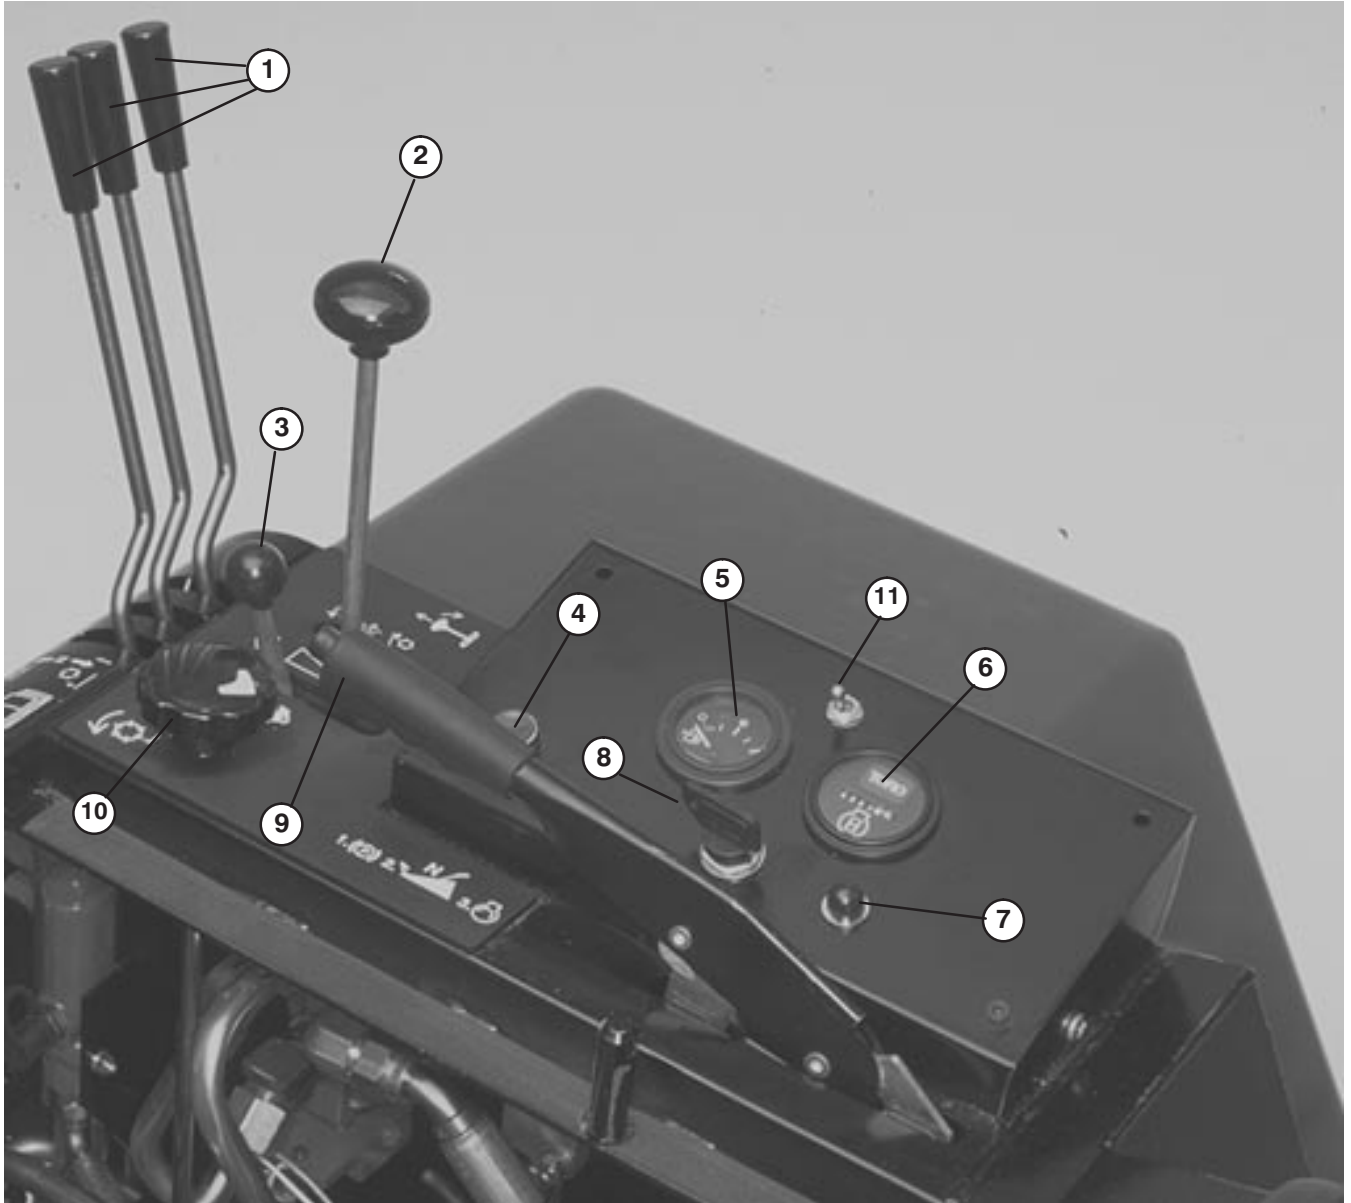

Figure 12
Cutting Unit Lift Controls (Fig. 12) – The two outside levers raise and lower the two outside cutting units. The center lever raises and lowers the two front and the center cutting units. Engine must be running to lower cutting units. When cutting units are lifted, reels automatically stop. Do not allow levers to snap–back to neutral, or cutting units may not float freely.
Engine Override Button (Fig. 12) – When button is depressed, engine can be operated after it has over heated and automatically been stopped by the electrical safety system. Use only for short intervals.
Fuel Level Gauge (Fig. 12) – Indicates amount of fuel in tank.
Hour Meter (Fig. 12) – Indicates total hours that machine has been operated.
Engine Preheat Indicator Light (Fig. 12) – Light turns on when key is moved to ON position. Glow plugs engage for 10 seconds, then, light goes off when engine is ready to start.
Key Switch (Fig. 12) – Three positions: OFF, ON and START. Rotate key to START and release key when engine begins running. To stop engine, rotate key to OFF.
Parking Brake Lever (Fig. 12) – Pull lever up to lock brake. To release brake, pull up on lever, press button and lower lever. Brake must be engaged to start engine. Always engage parking brake before getting off seat.
Mow–Backlap Lever (Fig. 12) – Move lever forward to engage cutting units. Move lever to the center to stop the cutting units. To backlap cutting units, lift lever over stop and hold in the rear position.
Reel Speed Control (Fig. 12) – Rotate knob clockwise to increase reel speed, counter–clockwise to decrease speed. Use in conjunction with the ground speed limiter to achieve appropriate rate of clip.
Throttle Control (Fig. 12) – Move control forward to increase engine speed, backward to decrease speed.
4 Wheel Drive Switch (Fig. 12) – (4 wheel drive model only) Move switch forward to engage 4 wheel drive. Move switch to rear position to disengage 4 wheel drive.
1. Sit on the seat, keep foot off traction pedal. Assure parking brake is engaged (Fig. 12). Traction pedal and mow/backlap lever must be in neutral.
2. Sit on the seat and engage parking brake (Fig. 12). Turn key and try to start engine with Mow-Backlap lever (Fig. 12) in both the MOW and BACKLAP positions. If engine cranks, there is a malfunction that must be repaired immediately. If engine does not crank, the cutting unit drive switch is operating properly.
Warning System – If a warning light comes on during operation, stop the machine immediately and correct the problem before continuing operation. Serious damage could occur if the machine is operated with a malfunction. For short intervals, however, the emergency engine override button (Fig. 12) can be used to operate the engine if it stops because of overheating.